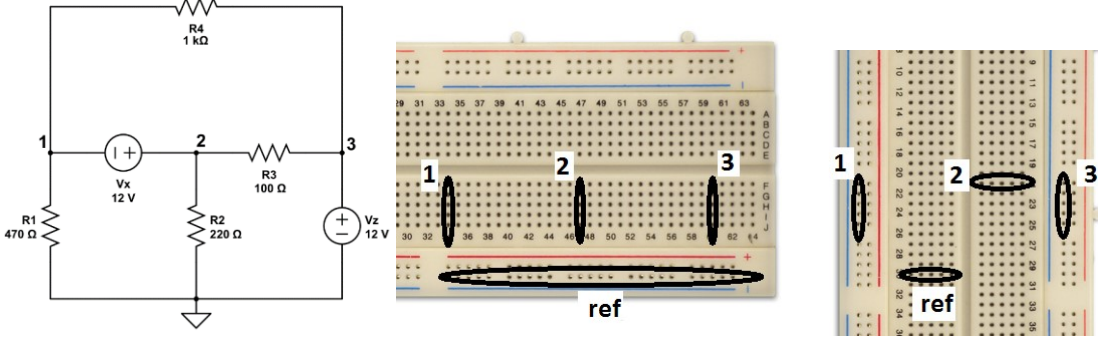

Fig 1 - Circuit Schematic and Two Possible Node Layouts for Implementing the Circuit
- LAYOUT TIP – One way to help organize your breadboarding thoughts is to choose where to locate your nodes on the breadboard first. Notice for the problem circuit we are tackling, each node is at the junction of 3 components. This would be easily handled by a single 5-pin row. So for the lab problem circuit, you might first pick where to locate each node, such as in one of the two examples provided in Figure 1 below. Once you decide on a node layout, then plant the components between the nodes and use jumper wires if necessary to connect components to distant nodes. In this way you will have a nice organized layout that is easy to measure and debug.